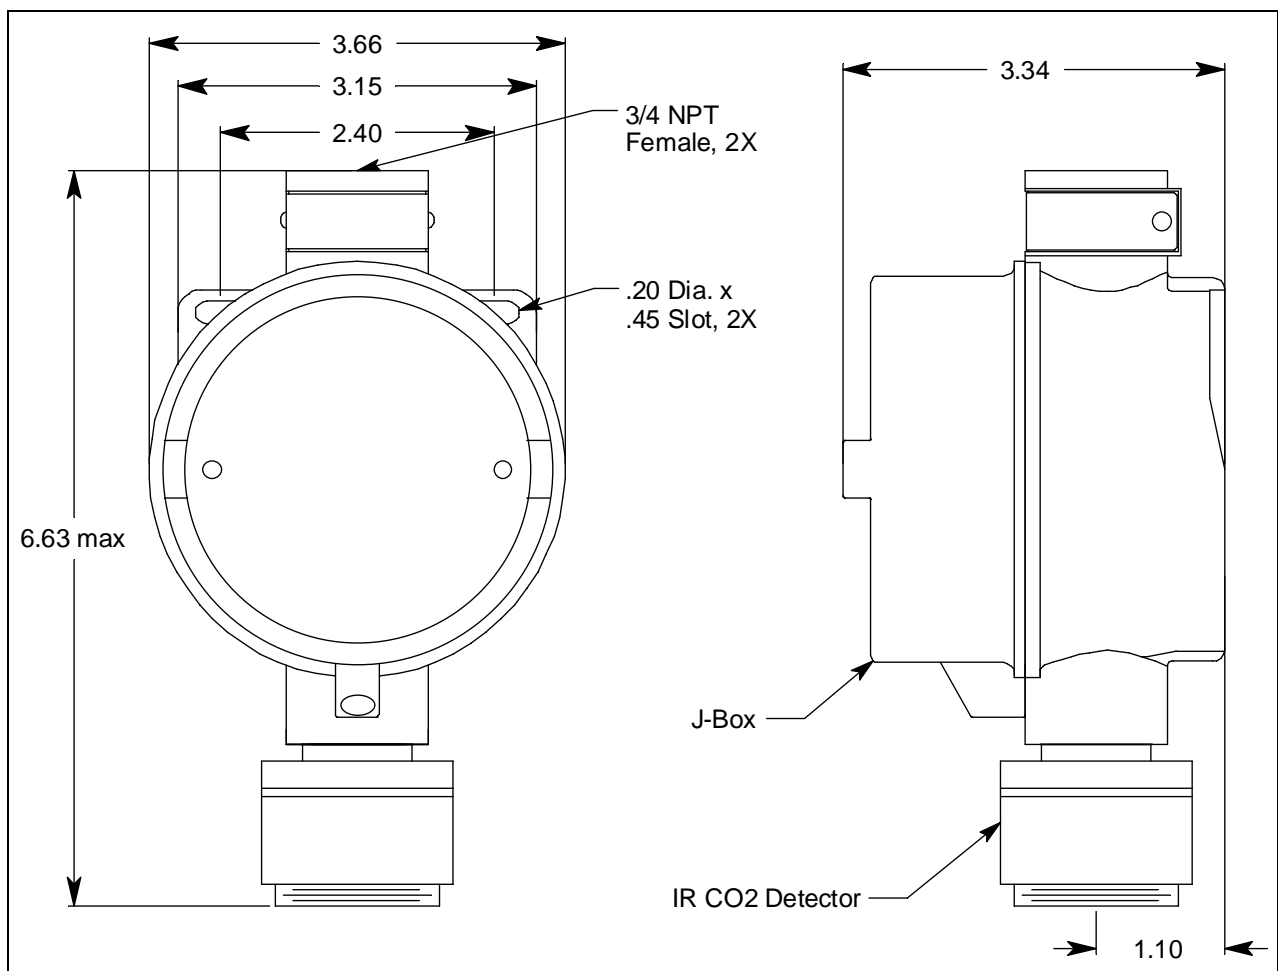

Figure 4: Mounting the CO₂ Transmitter
2. At the monitoring site you select, hang or mount the junction box with the detector facing down (see Figure 4).